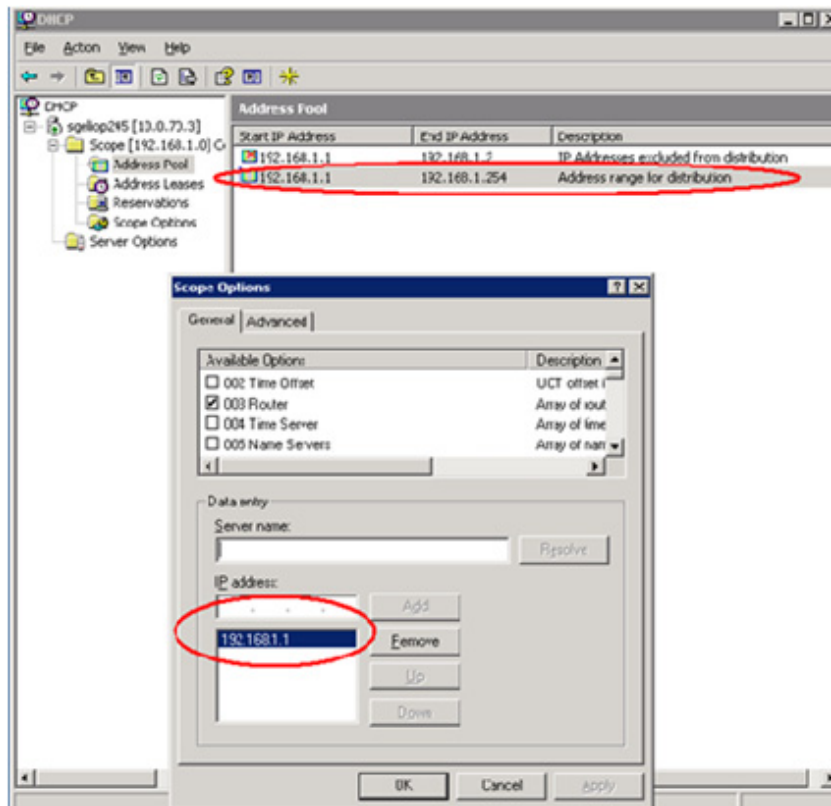

Figure 95 Scope options example
- ◆ First, verify if the IP addressing is correct. Ensure that you have the correct IP address and subnet mask assigned to your nodes (see Figure 95 on page 259) as well as the correct layer 3 port assignment on your distribution/core switches. Use the **show ip interface brief** CLI command in the switches.
On the DHCP server, go to Administrative Tools > DHCP > Address Pool to verify the IP address range being assigned matches what was originally assigned by the network administrator. To verify the default gateway is also being assigned correctly, select Scope Options and locate the router information (003). An example is shown in Figure 95.